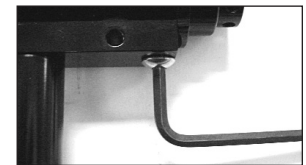

Fig 2.1
- Using a 1/8" Allen wrench, insert it into the rear retention screw, turn the Allen wrench counter-clockwise and completely remove the screw (Fig. 2.1).